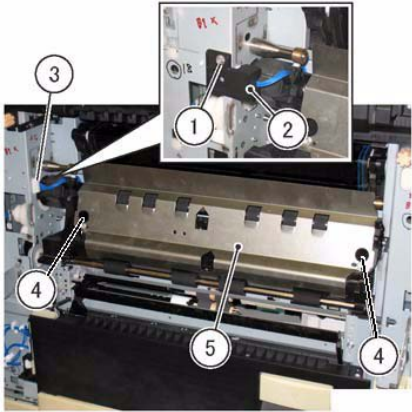

Figure 1 Reg Transport Assy Removal
4. Remove the Registration Transport Assembly. (Figure 1)